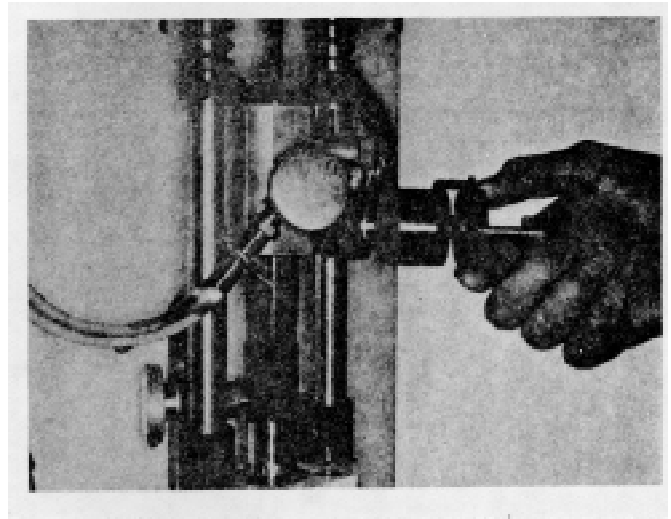

Figure 16H-57. Knob Spacing of ST-708
16. Slowly push the small knob in until you feel the needle enter the orifice plug inside diameter. Then turn the knob counterclockwise to lock the needle shaft to the larger knob with the indicator. Turn the indicator knob in until you feel the needle contact the plug. Index the indicator with a mark on the largest knob and advance one mark, Figure 16H-58.